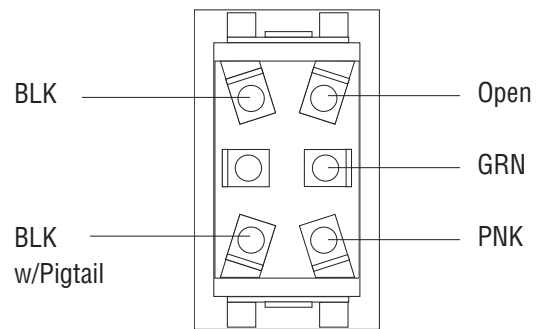

FIG. 1
12. Assemble harness to new switch. (FIG. 1)